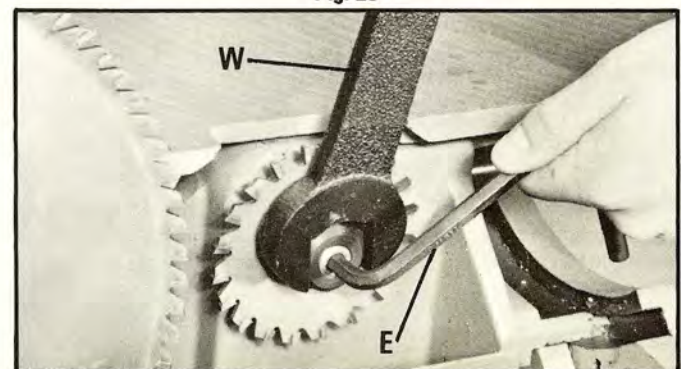

Fig. 26
4. Insert Allen wrench (E) Fig. 26, in end of arbor and tighten arbor nut using wrench (W).